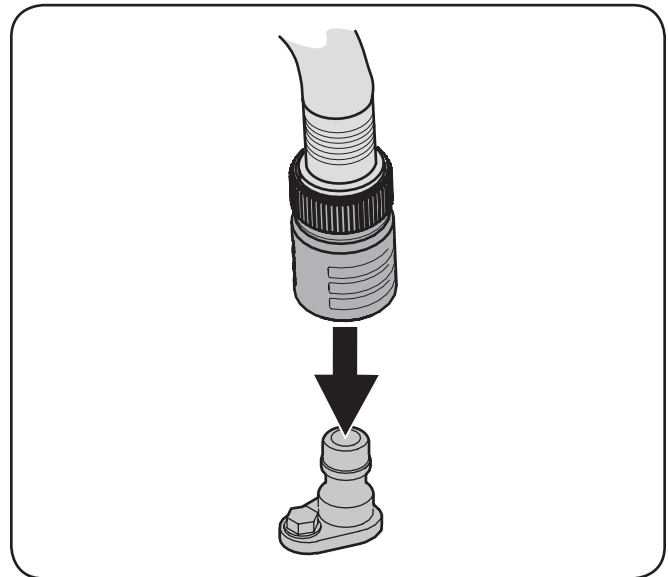

Figure 6-3
4. Attach the hose coupler to the water port on your decks surface. See Figure 6-3.